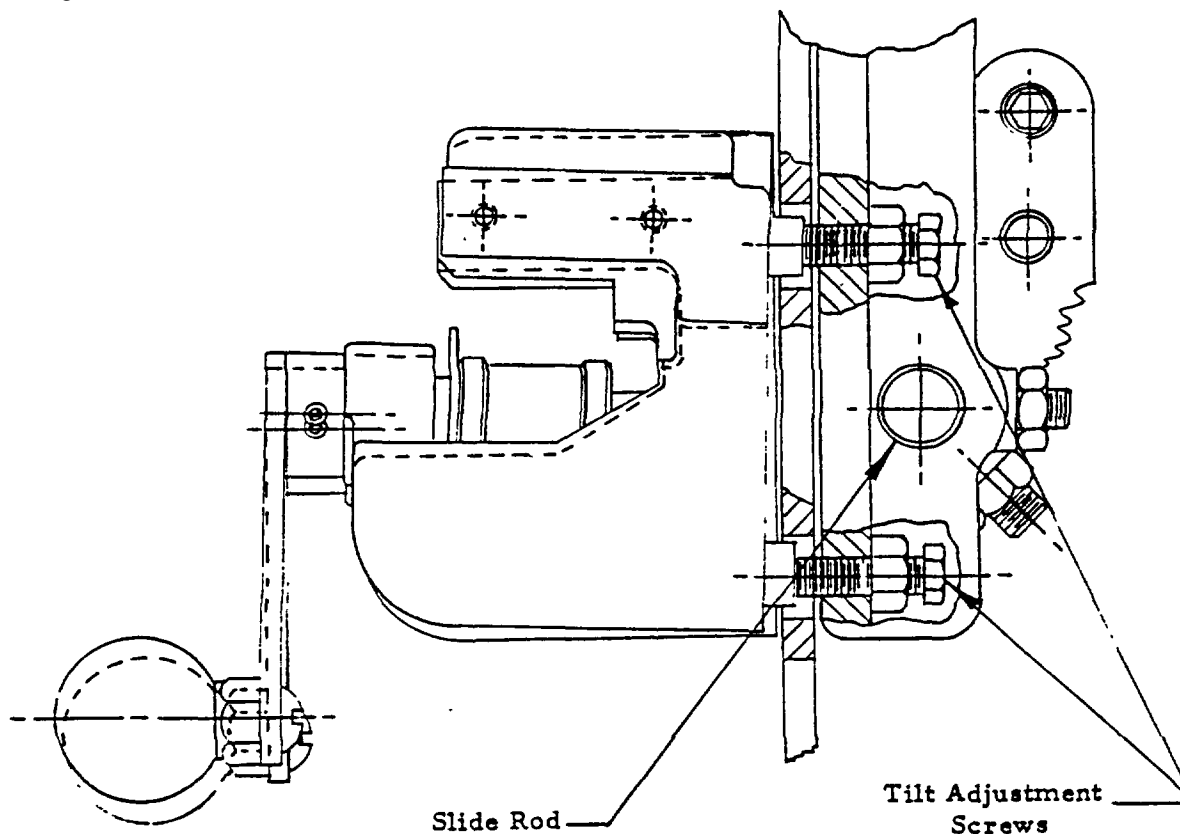

FIG. 3
- Fig. 3 is an example of twist misalignment. The movable jaw must be adjusted to correct this problem. Two adjustment screws are provided. Both of them must be used when making a correction. Care must be taken to prevent any binding on the slide rod.